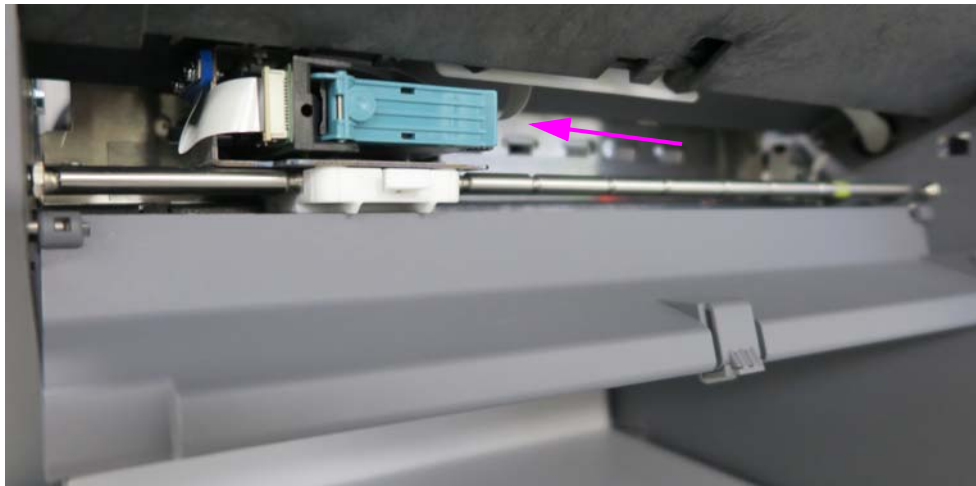

Figure 5-6: Front printer assembly
2. Lift the green lever to release the printer cartridge (Figure 5-6).